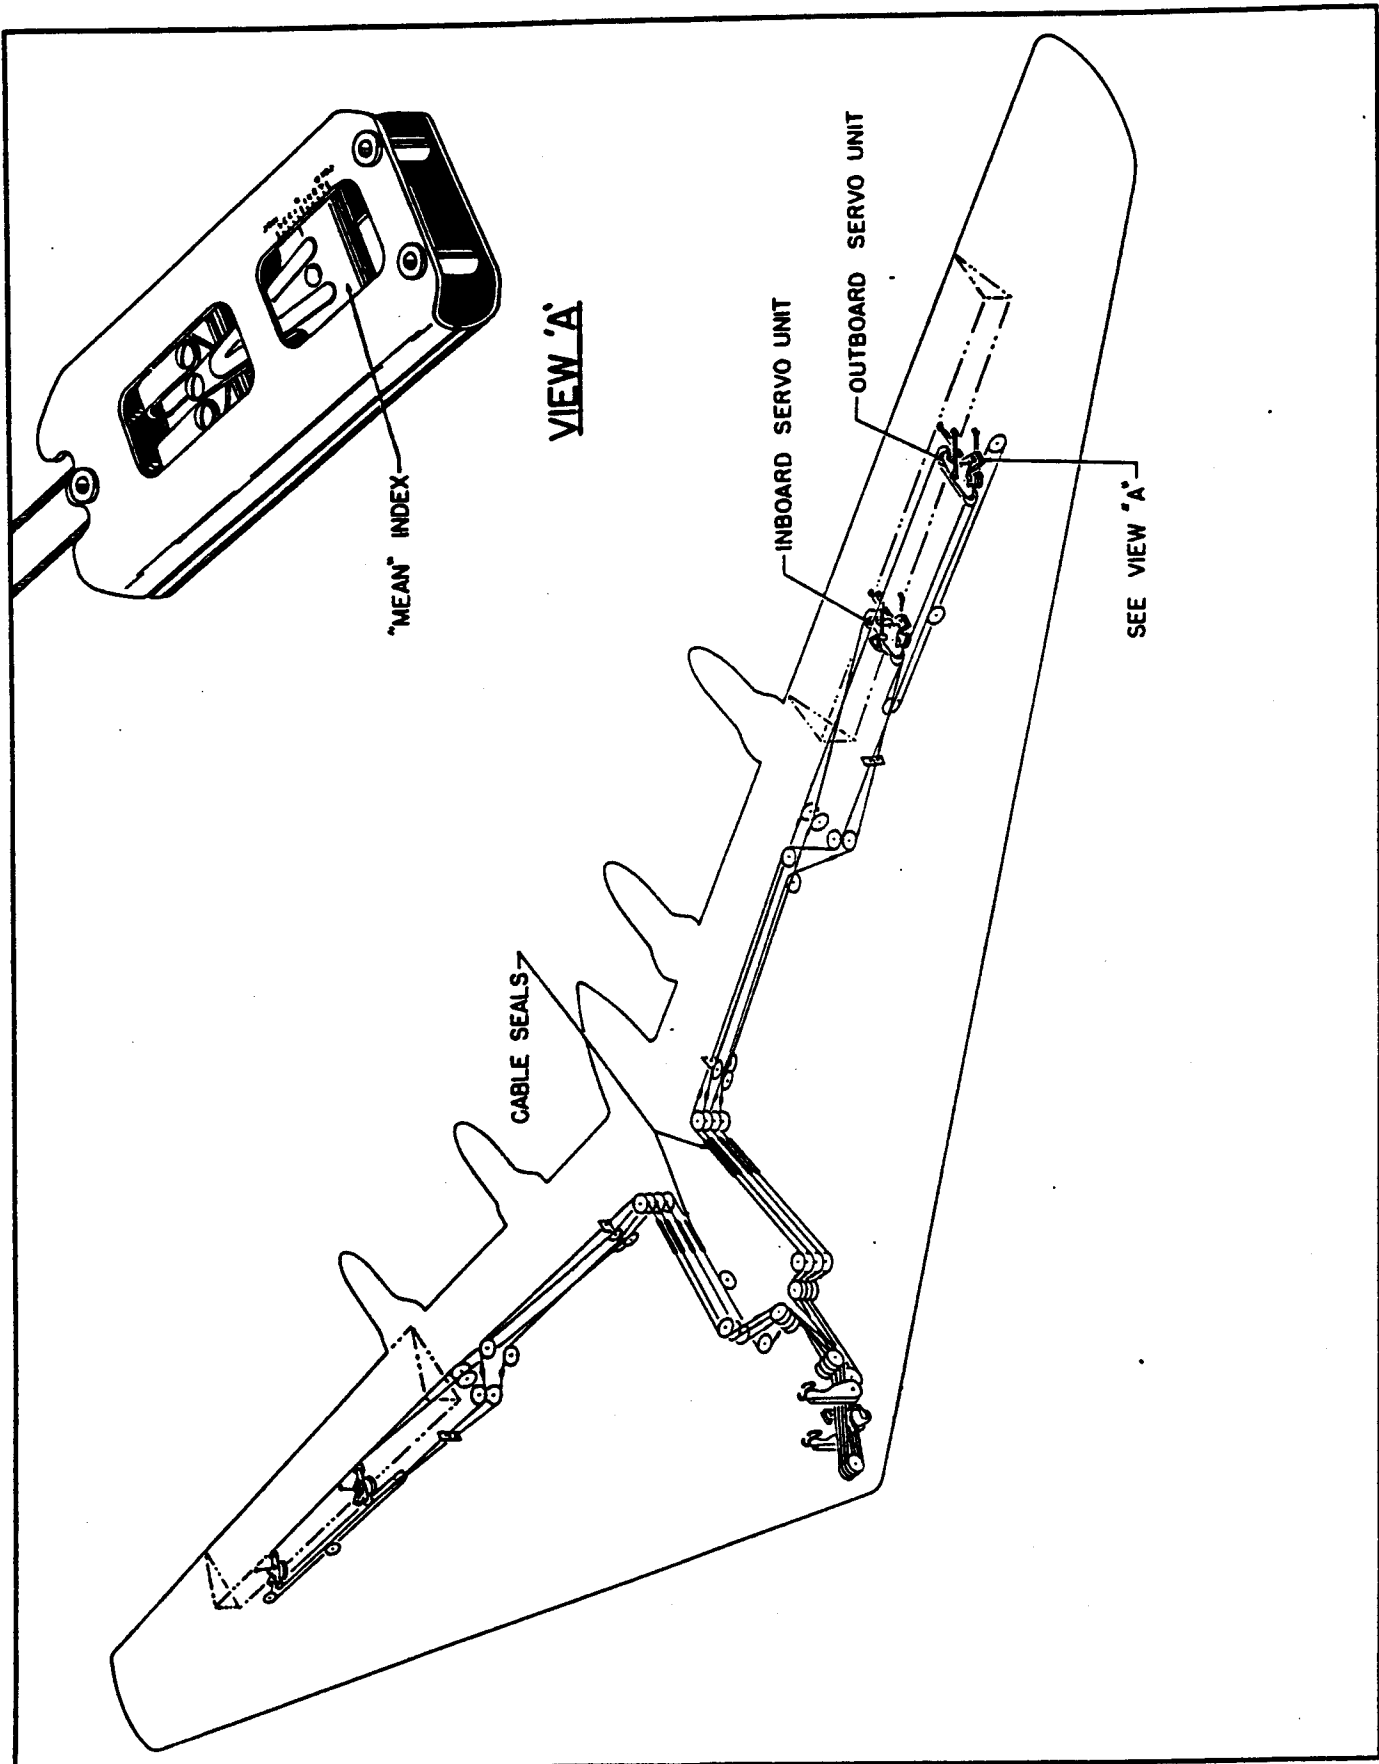

Figure 1. Elevon Control System
(1) ELEVON CONTROLS. (See figure 1.)- The elevons function as both elevators and ailerons. The control system is so designed, however, that the airplane is controlled laterally and longitudinally in the same manner as is an airplane with conventional ailerons and elevator. The control columns and wheels are connected to torque tube assemblies by cables enclosed in the columns. The torque tubes are connected to quadrants, and cable assemblies attached to the quadrants extend aft and outboard into each wing to two hydraulic control units at each elevon. A cable tension regulator installed at each hydraulic unit tends to maintain a nearly constant cable tension, regardless of temperature changes or structural deflections. Inasmuch as the elevons are actuated by hydraulic cylinders, "feel" has been inserted into the system by a control force bellows attached to the pilot's column and springs attached to the control wheel mechanism inside each control column. An electric motor assembly is incorporated in the system at each inboard hydraulic unit for use in the event of a hydraulic failure.